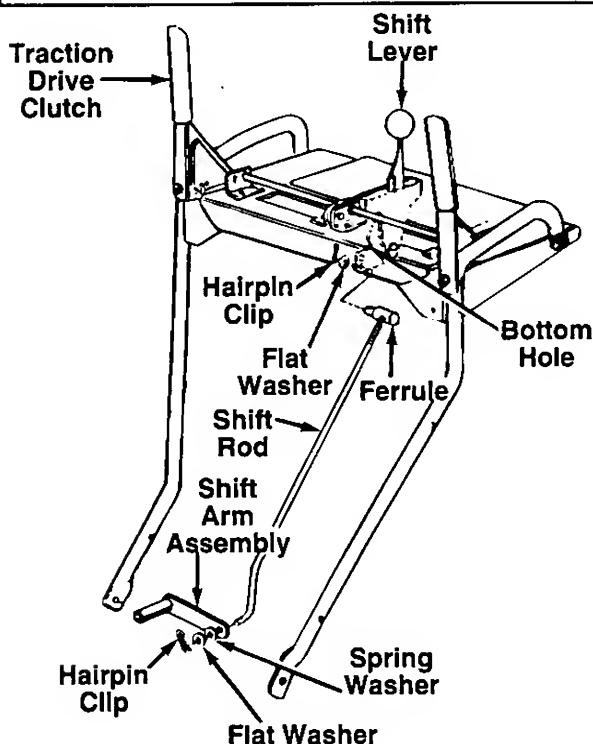

FIGURE 8.
1. Insert the ferrule through the **lower** hole in the shift lever (beneath the handle panel) from the left side. Secure with flat washer and hairpin clip. See figure 8.
2. Place the shift lever in the sixth (6) speed position (all the way forward).